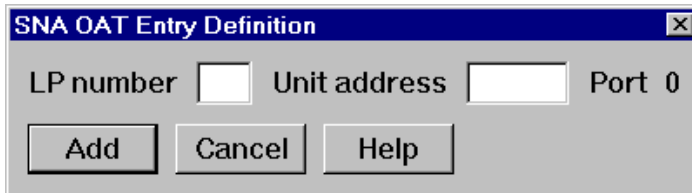

Figure 7-8 SNA OAT Entry Definition
1. Click the **SNA** tab, then click the right arrow, which should display page 4 of the configuration panels. Click **Add...** to display the SNA OAT Entry Definition panel; see Figure 7-8.